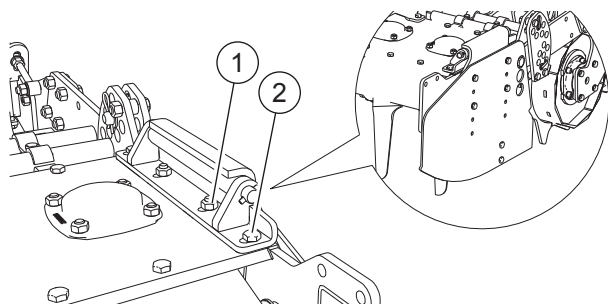

FIG. 41
- Loosen the bolts (2, “Fig. 41”).
- Loosen the nuts (1).